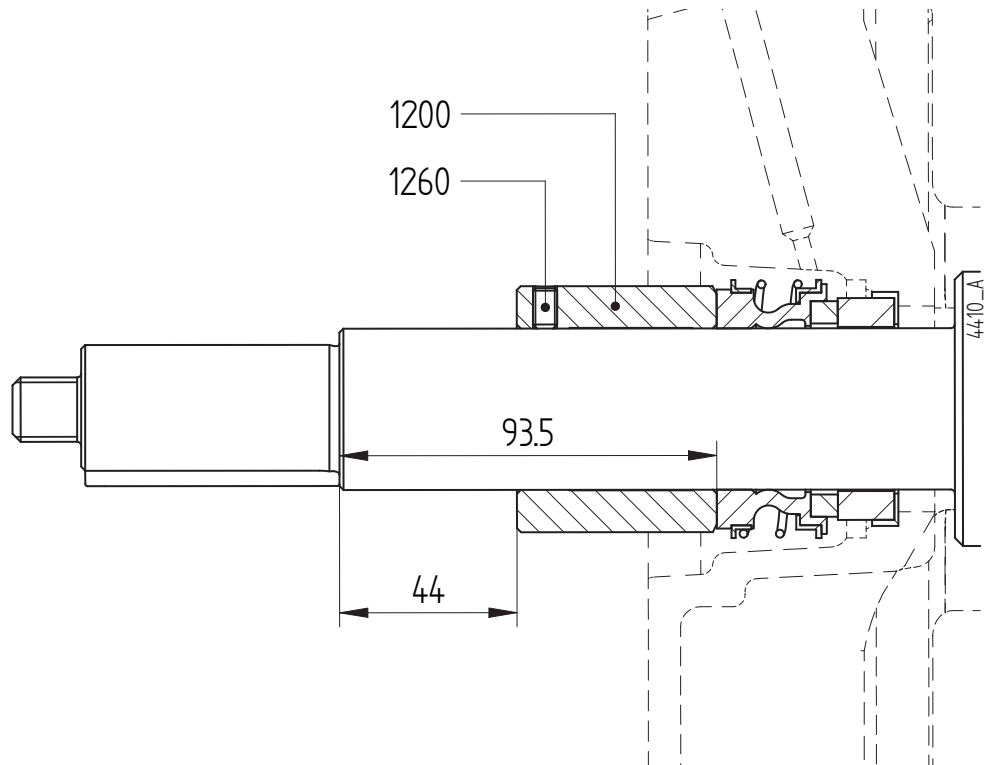

Figure 11: Adjusting the mechanical seal M1 of pump size 200-160.
- 2 Fit the shaft sleeve (1200) and set the distance to the shaft collar to 44 mm. See figure 11 of paragraph 7.5.3 "Assembling a mechanical seal M1". Tighten the set screws (1260).
- 2 Pump size 200-160 only: Loosen the set screws (1260). See figure 11.
- 7 Pump size 200-160 only: Set the distance between the spacer sleeve and the shaft collar at **44 mm**. Fix the spacer sleeve by means of set screw (1260). See figure 11.